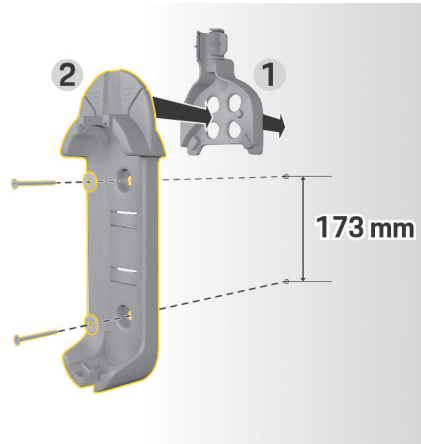

Fig. 28 Drilling dimensions
3. Press the basic wall mount 2 (Fig. 28) into the cable guide1 (Fig. 28) from the front.